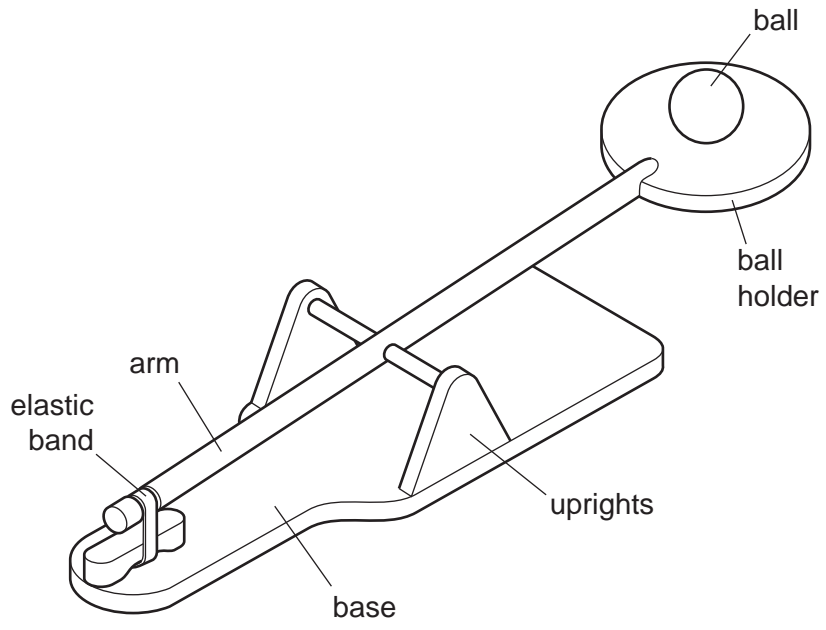

Fig. 8
12 Fig. 8 shows a device for launching a ball.
- (ii) On Fig. 8 label the load, effort and fulcrum for the lever when the ball is launched.